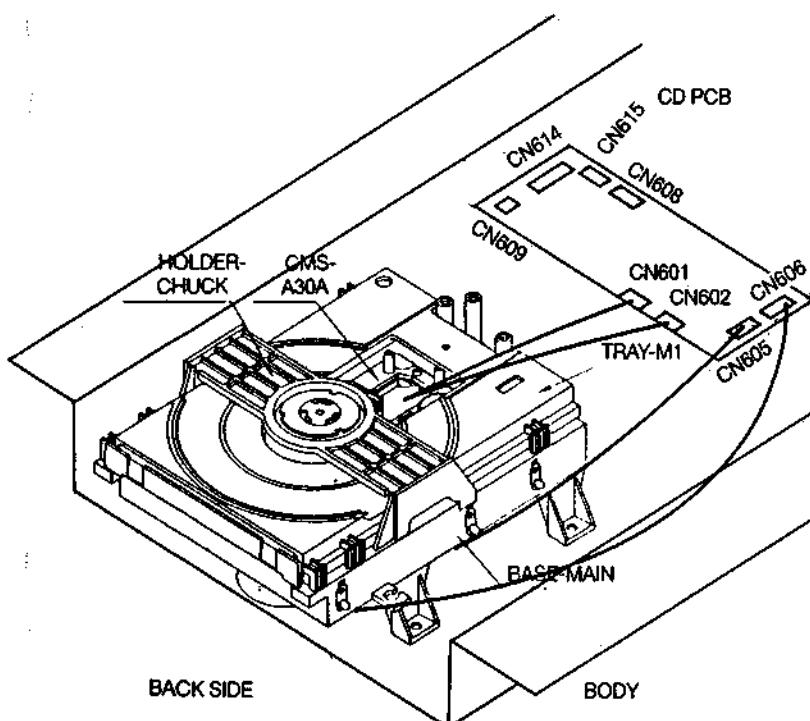

Fig. 1
- 1) Disconnect the four connectors carefully (These are on the CD PCB. fig 1. CN601, CN602, CN605, CN606).